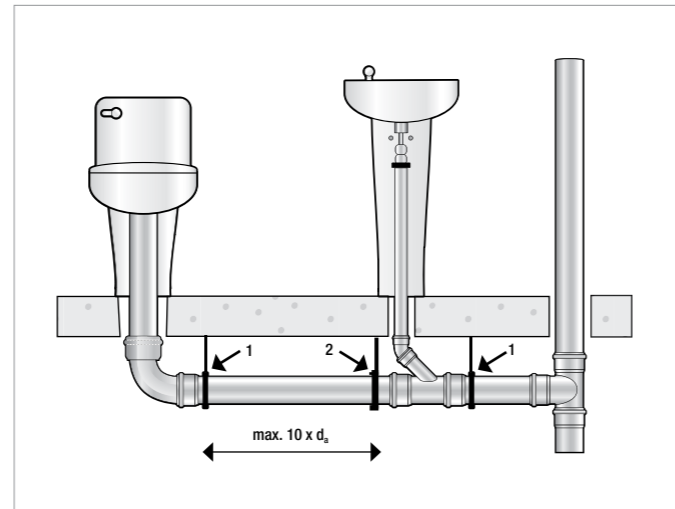

Fig. 7-5 Installation plan for horizontal pipeline.
A plan for effective bracketing of a horizontal sound-insulating pipe with RAUPIANO PLUS is displayed graphically (see Fig. 7-5).
- The distance between the fixing clamp and the guiding clamps may not exceed ten times the pipe outer diameter d_a (see Fig. 7-5): Spacing $\leq 10 \times d_a$.